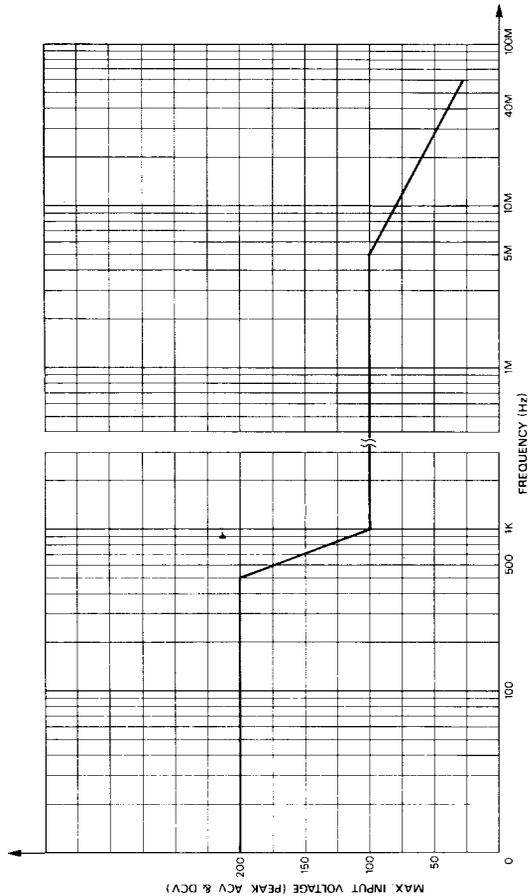

Fig. 1. Maximum input protection derating curve.
**Maximum Input:** See Fig. 1.